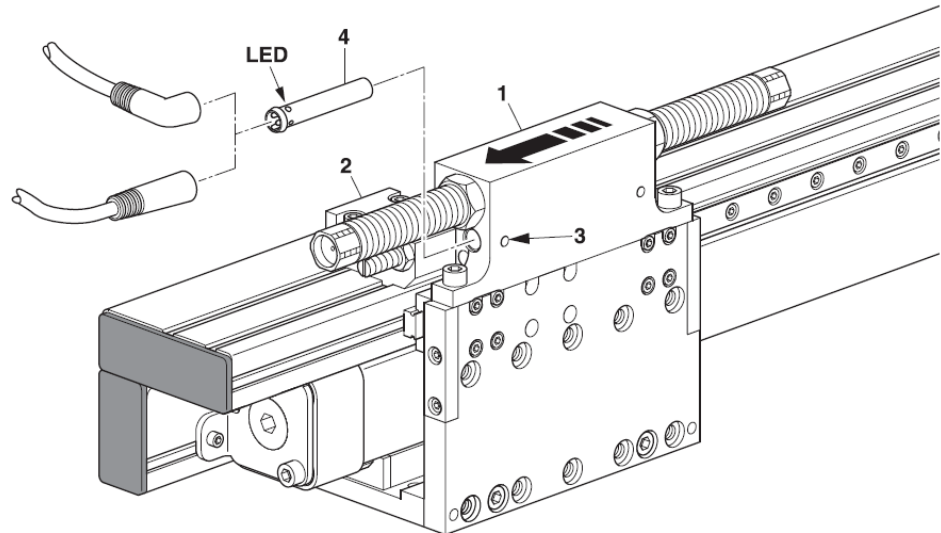

Fig. 36 Installation of initiator Ø6.5 mm in PMP/PMP-c version 02
1. Move the carriage (Fig. 36, 1) to the end position (Fig. 36, 2)
2. Loosen screw (Fig. 36, 3).
3. Push the initiator (Fig. 36, 4) into the box until it is activated (LED).
4. Tighten the screw (Fig. 36, 3).